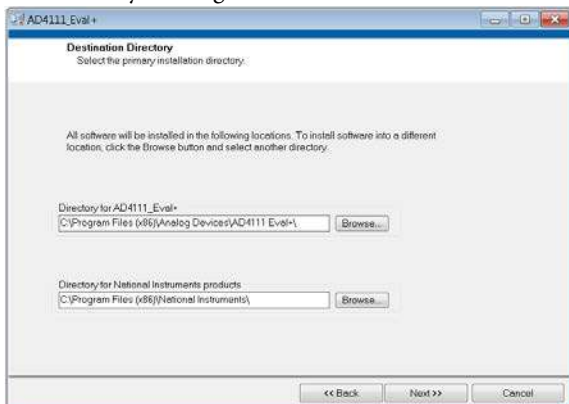

Figure 5. Selecting the Location for Software Installation
4. Select a location to install the software and then click **Next**. Figure 5 shows the default locations, which are displayed when the dialogue box opens, but another location can be selected by clicking **Browse**.